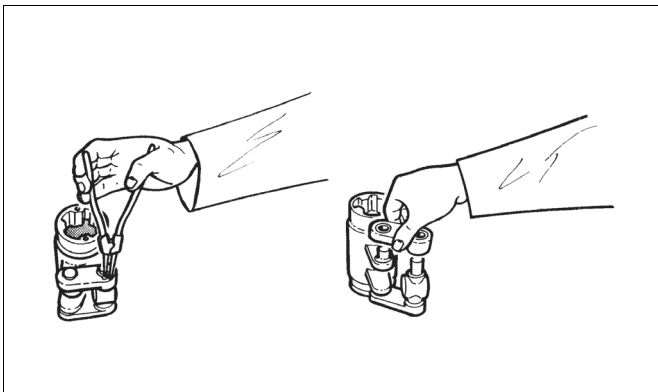

Fig. 22 Dismantling the linkage
- Remove the lock rings (36) and the support rings (37), see Fig. 22.
- Loosen the connection arms (4), clean them and check the condition of the bearings (20, 21).